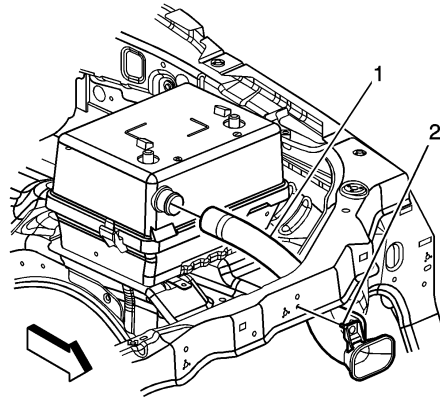

Fig. 3 Battery vent duct removal
10. Disconnect battery vent duct (1) from upper battery box, **Fig. 3**.
6. Connect battery vent duct (1) to upper battery box, **Fig. 3**.